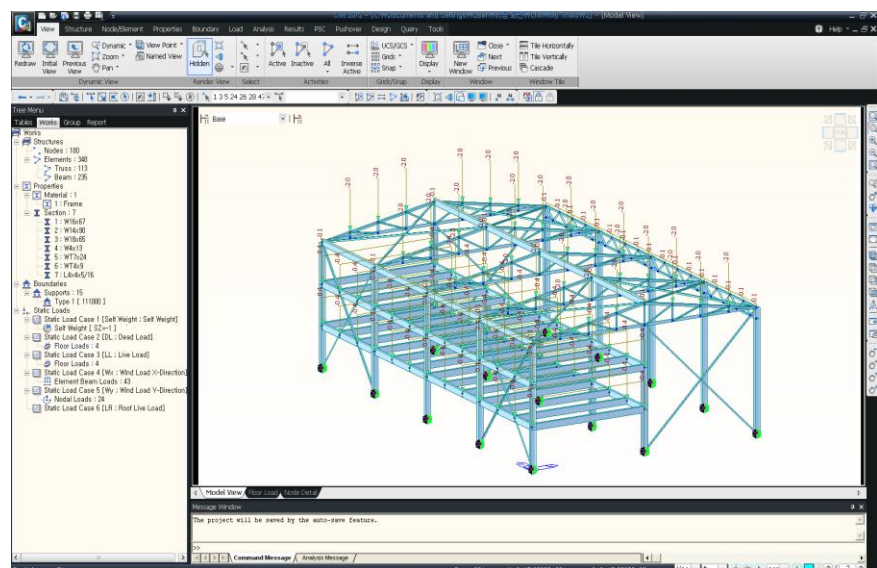

Figure 2.27 Confirmation of Floor Load input using Works Tree
7. Confirm the entered floor load as shown in Fig.2.27.